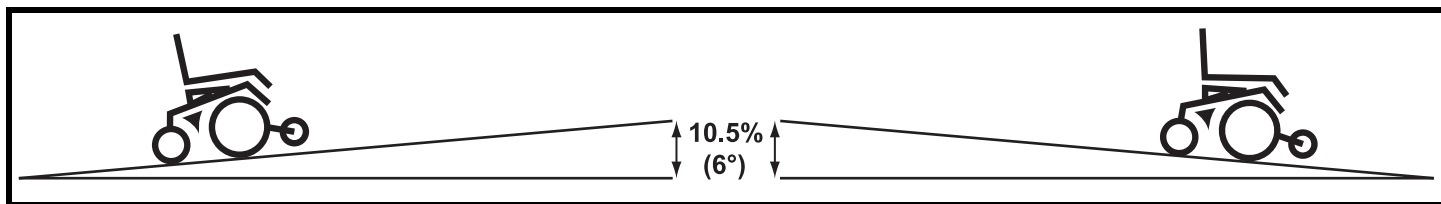

Figure 1. Maximum Safe Angle (Ascending and Descending)
**WARNING!** Even though your power chair is capable of climbing slopes greater than those illustrated in figure 1, do not, under any circumstances, exceed the incline guidelines or any other specifications presented in this manual. Doing so could cause instability in your power chair.
Pride recommends that the maximum slope of an incline you attempt to safely ascend or descend on your power chair does not exceed 10.5% (6°). See figure 1.